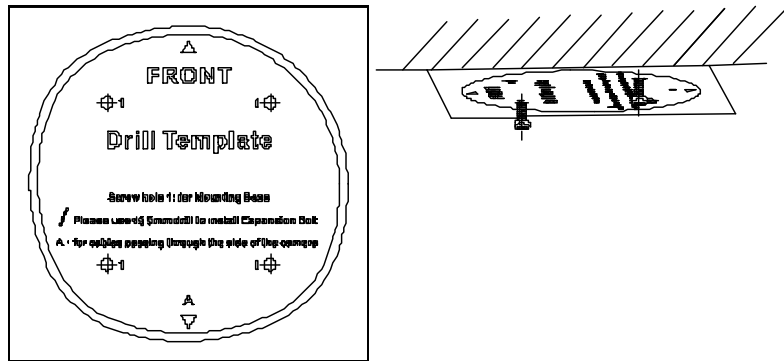

Figure 2-20 Attach the Drill Template
3. Insert 2 PM4*10 screws into the ceiling, as shown in Figure 2-20.